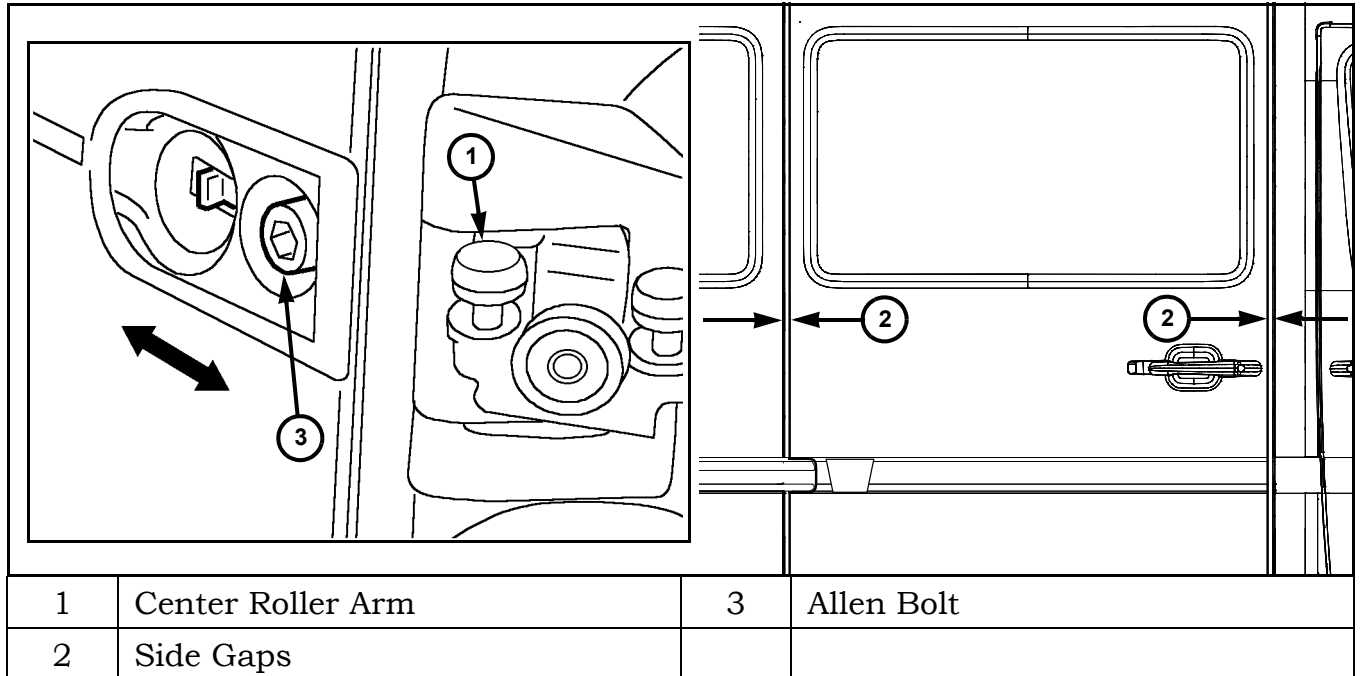

Figure 10 Side Gap Adjustment
- Loosen center roller arm bolt and adjust side gaps by adjusting center roller arm horizontally (arrow). See Figure 10.